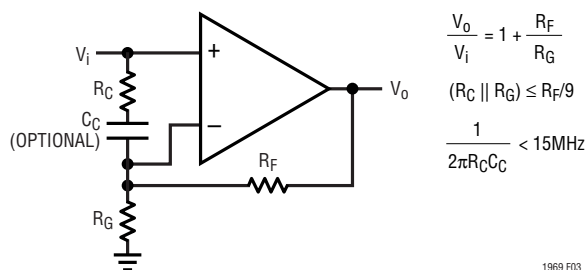
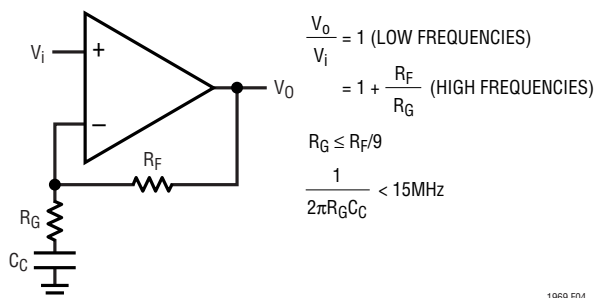
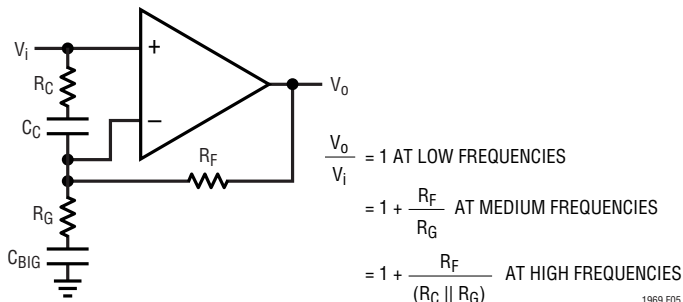

Figure 3. Compensation for Noninverting Gains
Figure 4. Alternate Noninverting Compensation
Figure 5. Combination Compensation
Figure 3 shows compensation in the noninverting configuration. The R_C , C_C network acts similarly to the inverting case. The input impedance is not reduced because the
Another compensation scheme for noninverting circuits is shown in Figure 4. The circuit is unity gain at low frequency and a gain of $1 + R_F/R_G$ at high frequency. The DC output offset is reduced by a factor of ten. The techniques of Figures 3 and 4 can be combined as shown in Figure 5. The gain is unity at low frequencies, $1 + R_F/R_G$ at mid-band and for stability, a gain of 10 or greater at high frequencies.
–73dBc for all swings up to $16\text{V}_{\text{P-P}}$ into the line. The gain of this circuit from the differential inputs to the line voltage is 10. Lower gains are easy to implement using the compensation techniques of Figure 5. Table 2 shows the drive requirements for this standard circuit.